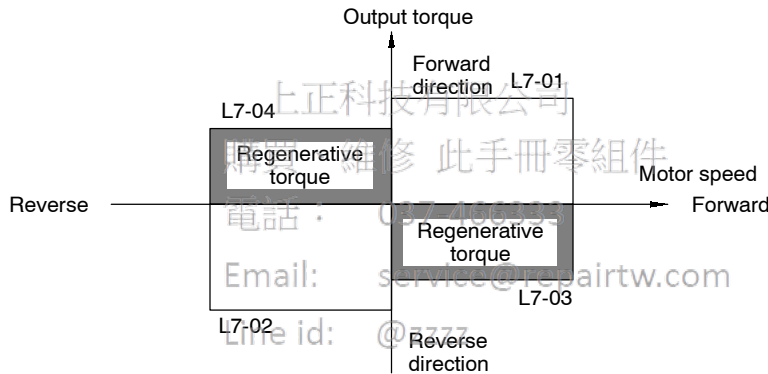

Fig 7.15 Torque Limit Function
- Figure 7.15 shows the relationship between each constant and the output torque.